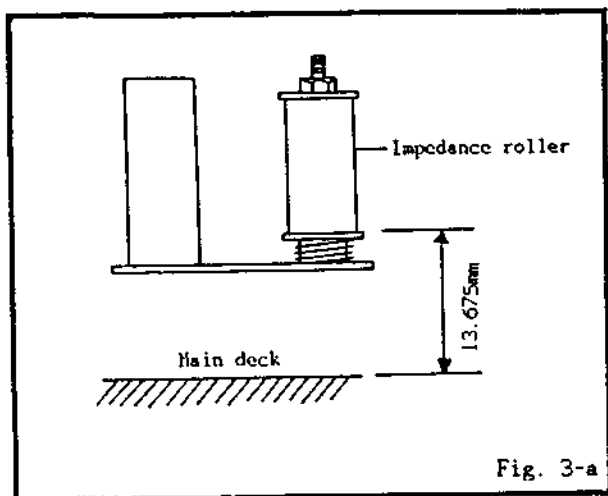

Fig. 3-a
1. After adjusting the take-up guide roller, refer to Fig. 3-b and use a cross-head screwdriver to adjust the audio/control head inclination with the screw ①. Adjust for smooth transport at the take-up guide pole flange.
2. One method of adjusting is to first turn the screw ① counterclockwise to where tape wrinkling occurs at the bottom of the take-up guide pole. Then carefully turn the screw clockwise to eliminate wrinkling.